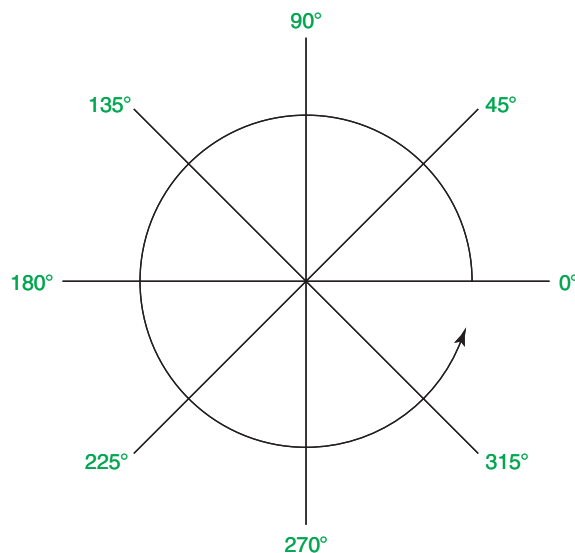

Fig. 2.8 The counter-clockwise direction of measuring angles in AutoCAD
5. The next example (the fourth) shows how lines at angles can be drawn taking advantage of the relative coordinate entry method. Angles in AutoCAD are measured in 360 degrees in a counter-clockwise (anticlockwise) direction (Fig. 2.8). The < symbol precedes the angle.